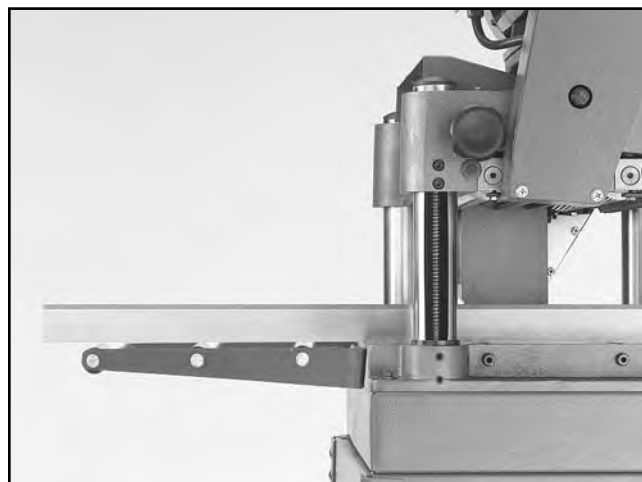

Figure 13. Checking extension roller alignment..
6. Use a straightedge to check table-to-extension roller alignment as shown in **Figure 13**.